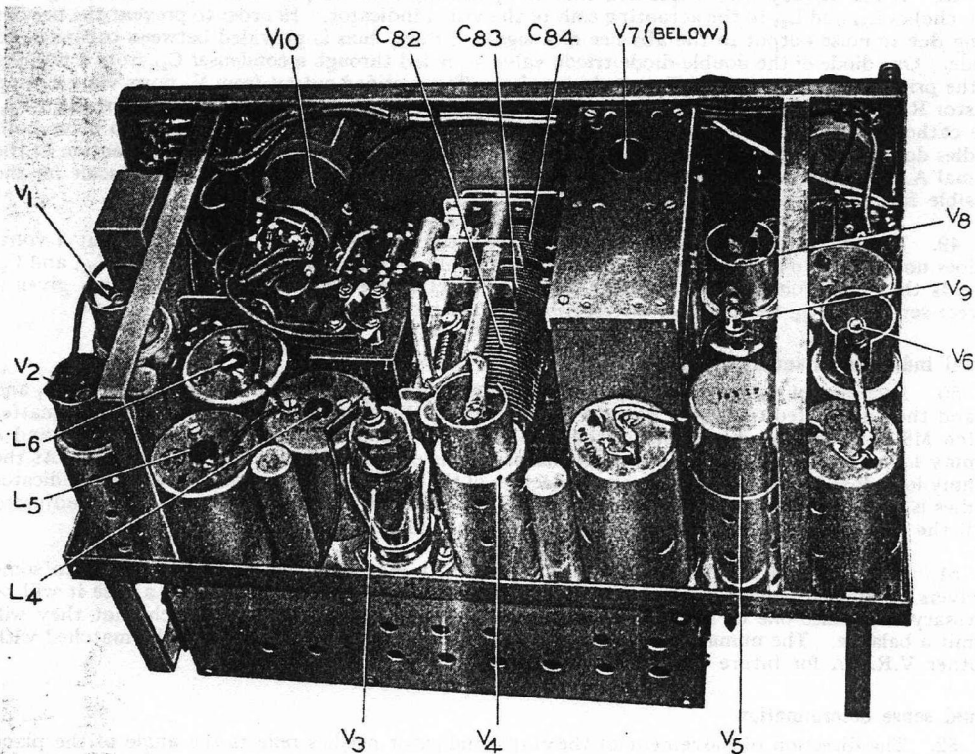

FIG. 15.—R.1155 CHASSIS, UPPER DECK
54. The control panel of a receiver, type R.1155N is shown in fig. 1. Illustrations of the R.1155 are given in fig. 15, which is a view of the upper deck of the chassis, and fig. 16 which shows the chassis underside view. The diagram of fig. 17 gives the location of components. To facilitate search this diagram is gridded and a reference table is provided. The additional filtering components incorporated in later models may be seen from figs. 18 and 19, which are illustrations of a R.1155B. The receiver is removed from its case by loosening the four screws at the corners and by pulling the handles. All cable connections to the receiver are terminated in plugs and sockets which are non-reversible and non-interchangeable. Cables are, wherever possible, metal braided, the braiding being earthed to reduce interference from external sources. Details of the cables and connections are given in Table A overleaf. The receiver case, chassis, and panel are of metal, and are earthed to the main bonding system of the aircraft.